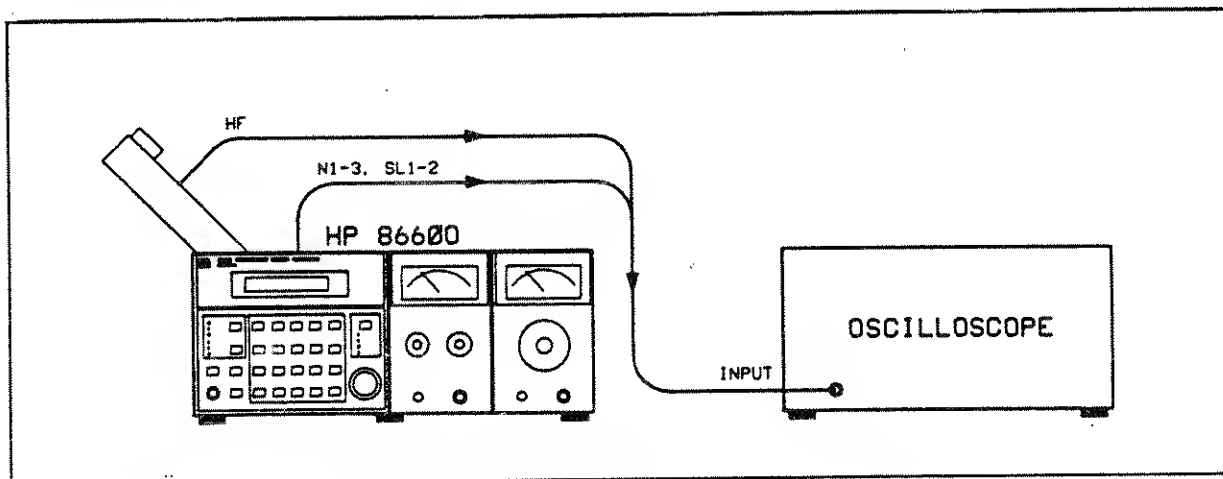

Figure 5-1. Abbreviated Phase Locked Loops Test Setup
1. Set up the test equipment as shown in Figure 5-1.
*All of the test points except for the HF loop are located on the A2 Motherboard. Access to these test points is obtained by raising the A4 assembly and locking it in the up position (see Figure 5-1). Figure 5-23 shows the approximate location of all test points. The reference designators of the test points are etched on the pc board. Access to TP3 and TP8 is difficult because they are under the A3A1 and A3A2 assemblies. TP3 can be reached by using a piece of solid wire to probe down into the test point. TP8 is connected to XA12-1 pin 4, which is accessible.*